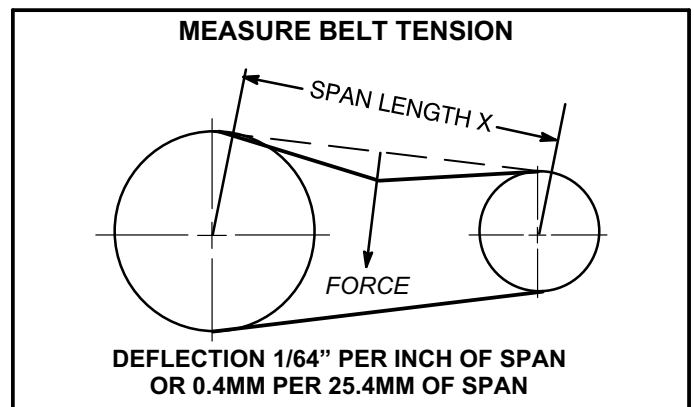

FIGURE 26
- 1- Measure span length X. See figure 26.
- 2- Apply perpendicular force to center of span (X) with enough pressure to deflect belt 1/64" for every inch of span length or 0.4mm per 25.4mm of span length.